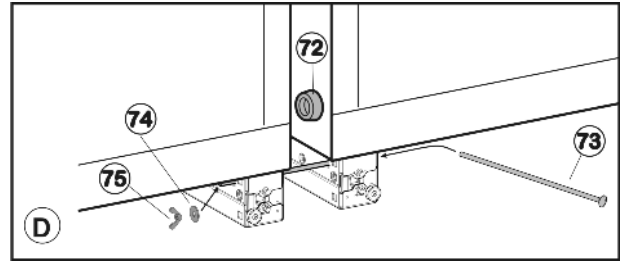

Fig. 48
- ▶ Insert long carriage bolt Fig. 48 (73).
- ▶ Push washer Fig. 48 (74) and nut Fig. 48 (75) onto the screw. Tighten nut until the spacer Fig. 48 (72) is touching the opposite side wall.